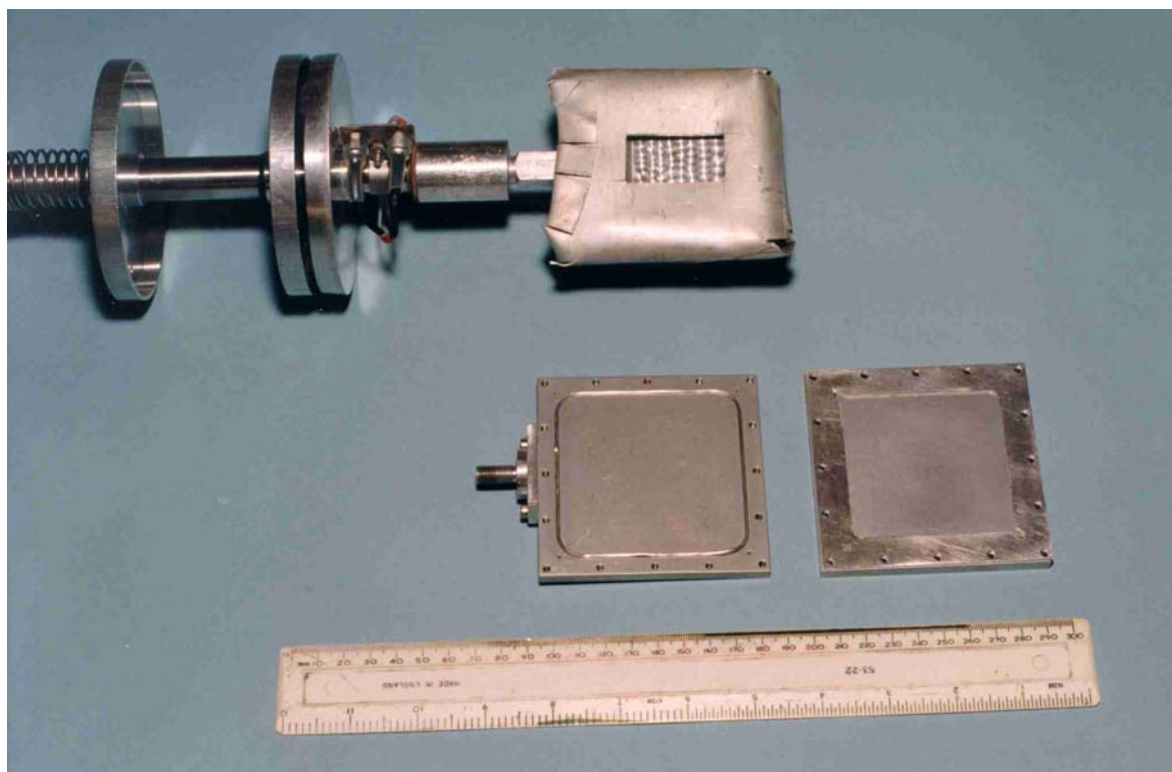
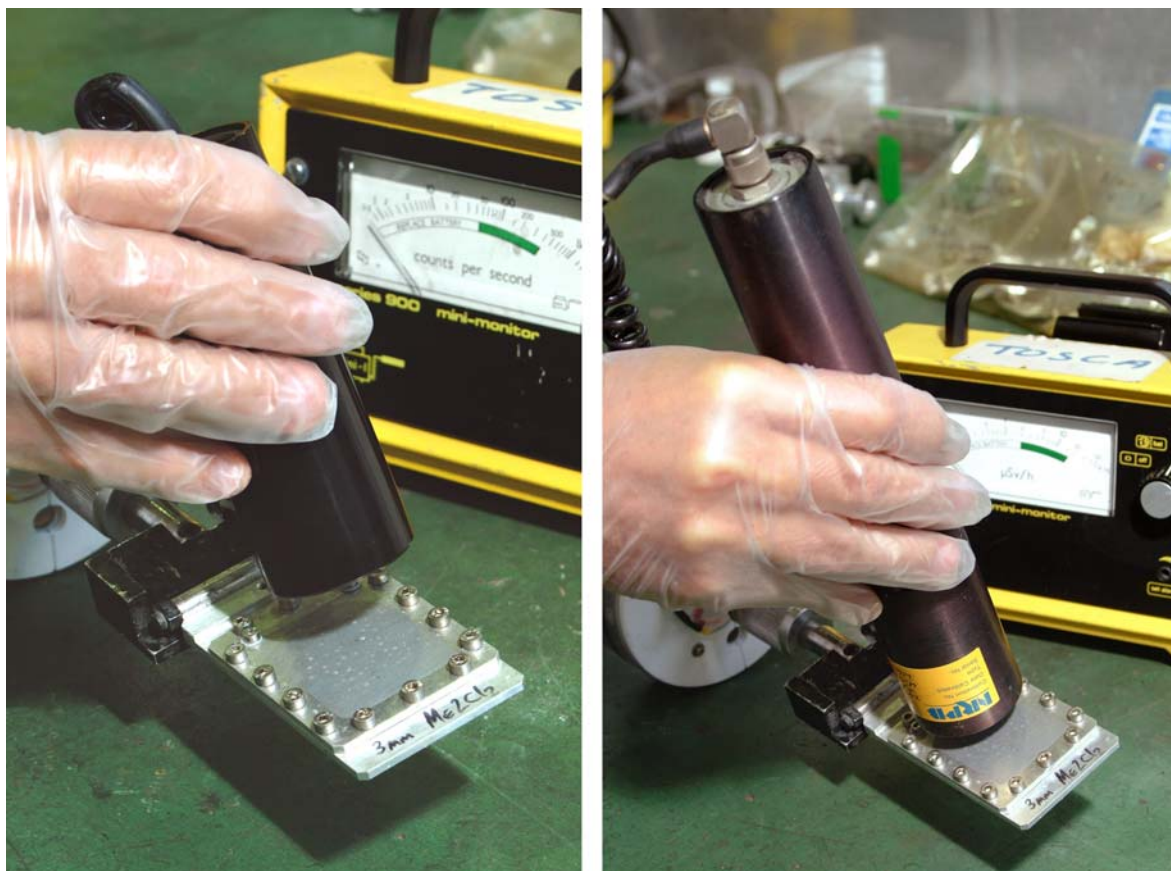

Figure 2.2: The components of a liquid cell and an assembled cell, shielded with cadmium mounted on a centrestick. 95RC1026
Figure 2.14: Testing the sample with β (left) and γ (right) radiation monitors.
Figure 2.2 shows the second (“HET”) type cell of thin walled aluminium sample can and its components. The can consists of two outer cases and a spacer. The spacer thickness can be varied between 1 and 10 mm. The can is sealed using either indium wire (narrow grooves) or with Viton O-rings (wide grooves). Since the width of the can is much greater than that of the beam, solid samples should be loaded into a sachet and this positioned in the centre of the can before assembly. To reduce scattering from the cell, it should be completely shielded with cadmium apart from the opening at the front of the cell. Owing to the large mass of the cell, once loaded and attached to the centrestick, it should be immersed in liquid nitrogen for a few minutes immediately prior to putting the centrestick in the cryostat. This reduces the cool-down time to less than an hour, from several hours.
For solid samples in sachets, the simplest method is to attach the sachet to the aluminium baseplate of an HET type can (lower left in *Figure 2.2*) with small strips of aluminium sticky tape. The beam centre is 1165 mm below the **underside** of the centrestick flange and the beam itself is 40 x 40 mm (h x w). The sample should cover as much of the beam area as possible and be preferably no more than 2 mm thick. If measurements at temperatures other than the base temperature of the CCR (~12K) are intended, then the best method is to attach heaters and a sensor to the sides of the plate. Note the sensor number! Care should be taken that only the sample and the Al sachet are in the beam; items such as sensors, heaters, tape or wire should not intrude.
Samplechanger type liquid cells are held by a clamp attached to the end of the centrestick (see *Figure 2.14*). HET cans have a mounting plate with an M8 screw that attaches to the end of the centrestick (top in *Figure 2.2*).
4. MONITOR the sample with both β and γ monitors (β monitor cap off, see *Figure 2.14*). If the radiation level is less than 75 μSv consign the sample to the TOSCA active sample cupboard (see below.) If the levels are greater than 75 μSv inform the **Duty Officer** for instructions (ext: 6789)